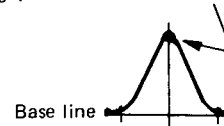

Fig. 12
4. Feed in a weak signal to IC101 from the genescope. Adjust T101 for maximum gain and the waveform indicated in Fig. 12. If the center of the waveform cannot be lined up on the marker, adjust the right/left balance.